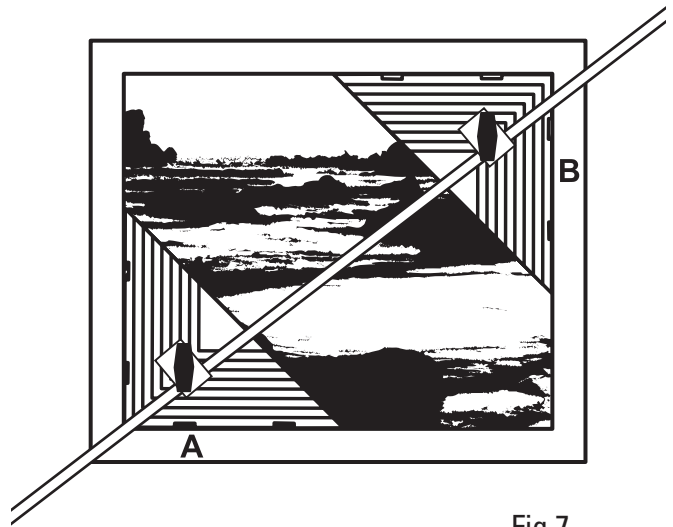

Fig.7
- Step 1** – Loosen the adjustment knobs on both the alignment triangles and slide Triangle A into the lower left hand corner of the image to be framed and tighten knob. (Fig. 7)